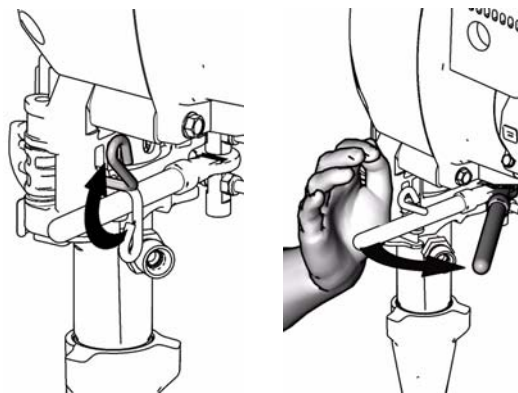

FIG. 13
- Fig. 13. Remove two screws (71) and swing down cover (169a)